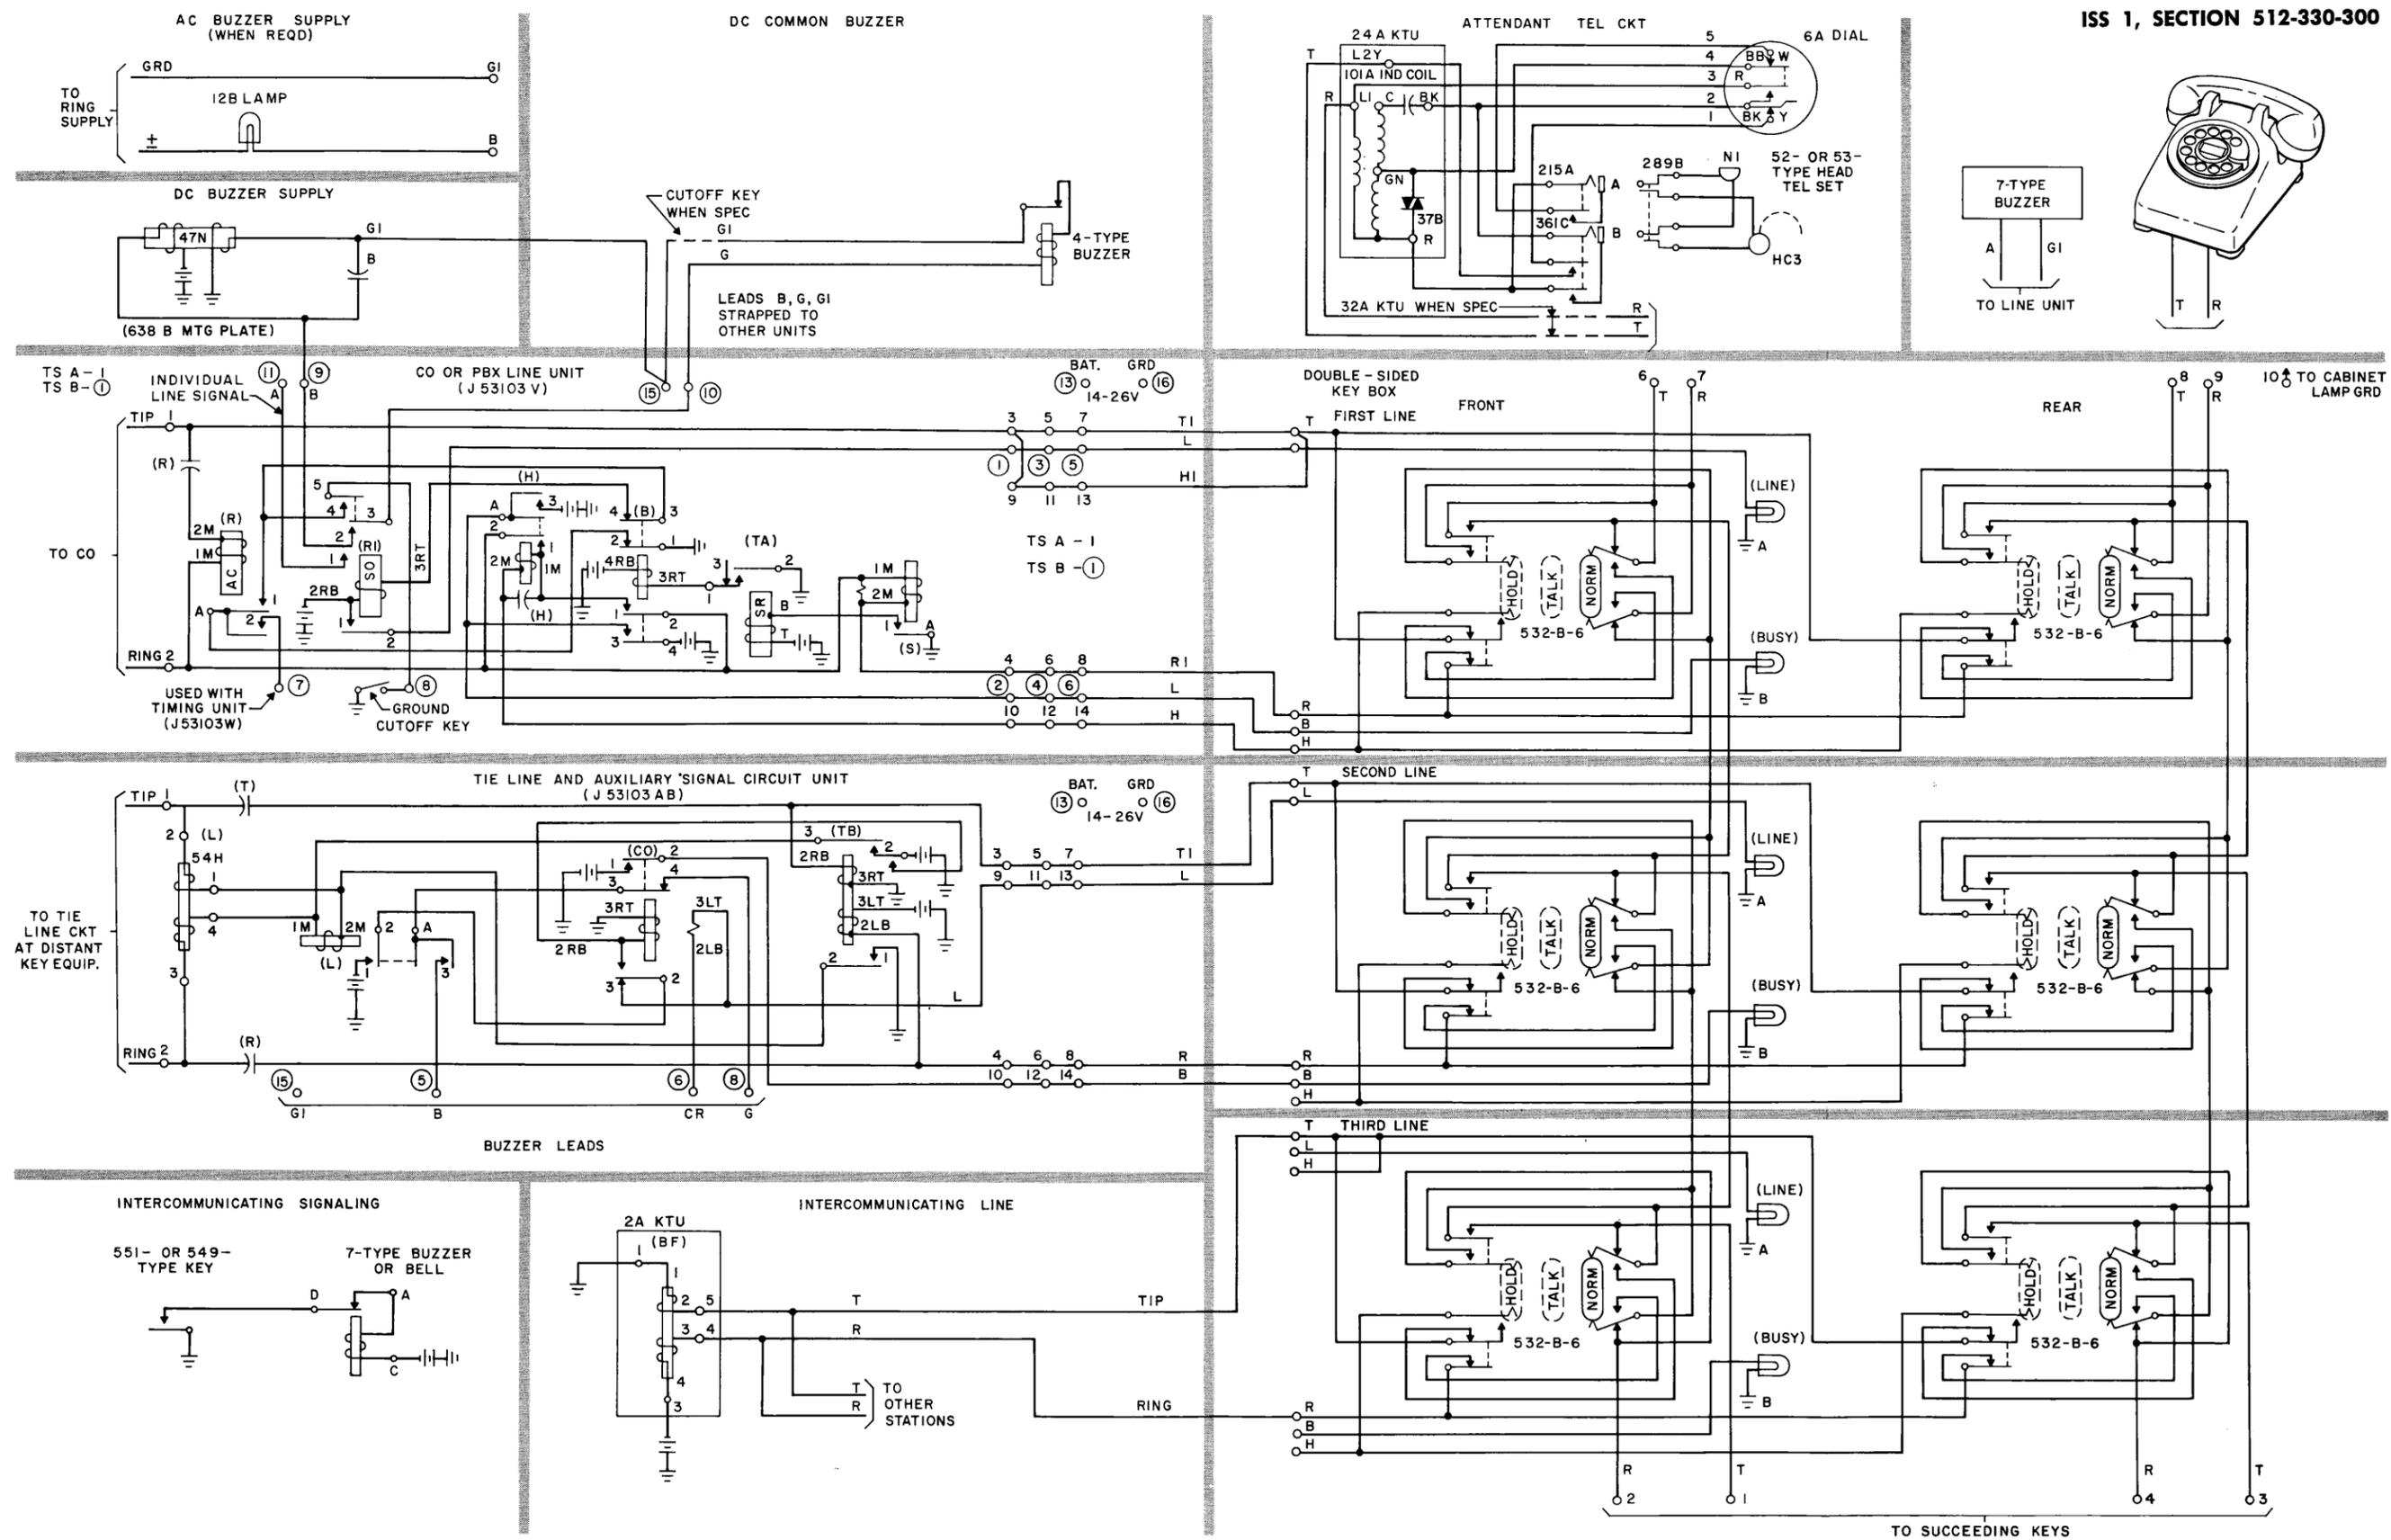

Fig. 1 - Composite Circuit Drawing
3.01 A typical composite circuit drawing is shown in Fig. 1. This drawing is provided as a supplement to standard SDs and is not intended to replace them.